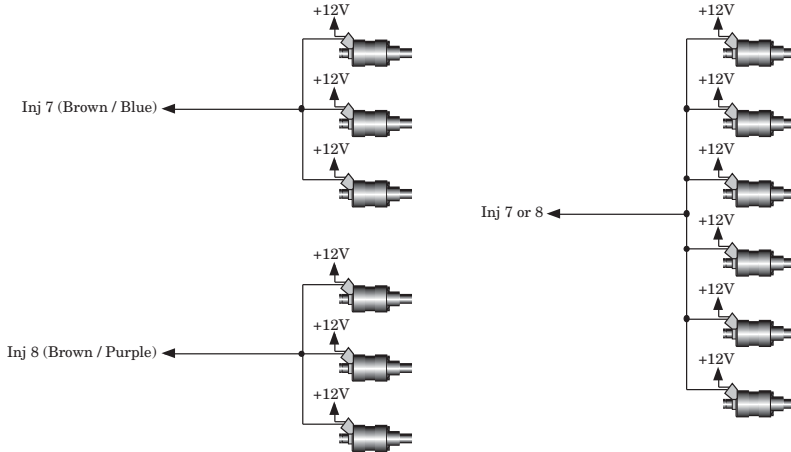

Figure 3.1. Group Fire wiring for 6 cylinders or less
- For 6 cylinders or less, the injectors can be fired in a single or two-group configuration. See Figure 3.1